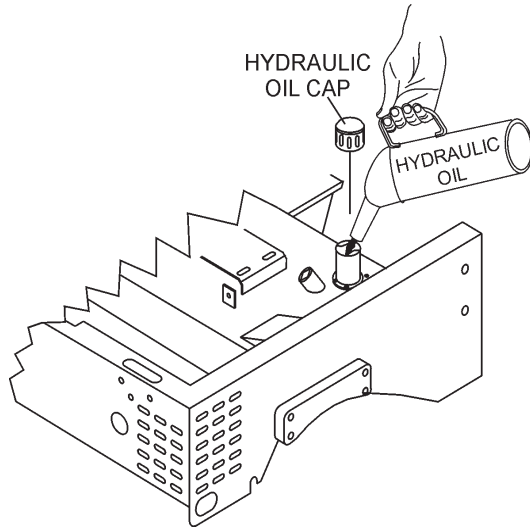

Figure 14. Hydraulic Oil Reservoir Filler Port
4. If the hydraulic oil level is low, remove the hydraulic oil cap (Figure 14) and fill with type **ISO 46 anti-wear type hydraulic oil** to the recommended operating level.